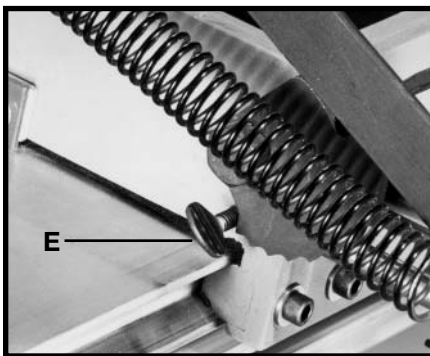

Fig. 70
4. The tool advancement arm can be locked in any position for straight wood turning by rotating thumb screw (E) Fig. 70 clockwise. This locking device will keep the tool advancement arm from moving in or out during a straight cut.